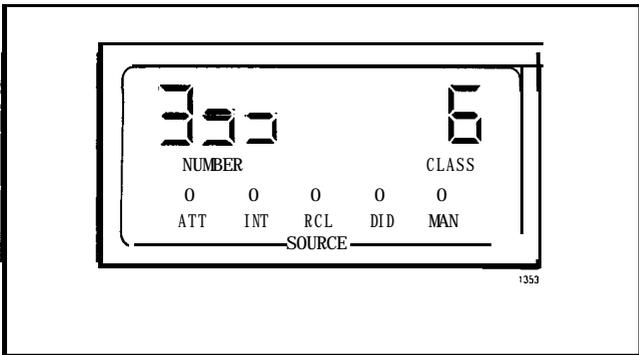

Fig. 2-1 Single Customer Display
2.07 Where several customers (tenants) share one PABX (Generic 203/up) then the test procedures to be performed (listed in Tables 2-3, 2-4, 2-5, 2-6, 2-7 and 2-8) are in respect to the "Non-Hotel/Motel" options, ie. they are the same as for a single customer configuration. It should be noted however that the console SOURCE and DESTINATION displays, during the test procedures, will reflect the fact that a multi-tenant configuration is in effect. These displays will show the "tenant" digit which prefixes the extension number. A typical example of this difference is illustrated in Figs. 2-1 and 2-2, respectively showing a single customer extension display, and a display which indicates that the calling extension (333) forms part of Tenant group 2.